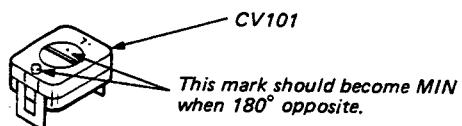

Fig. 4-2
2. Adjust CV101 so that minimum as shown in Fig. 4-2.